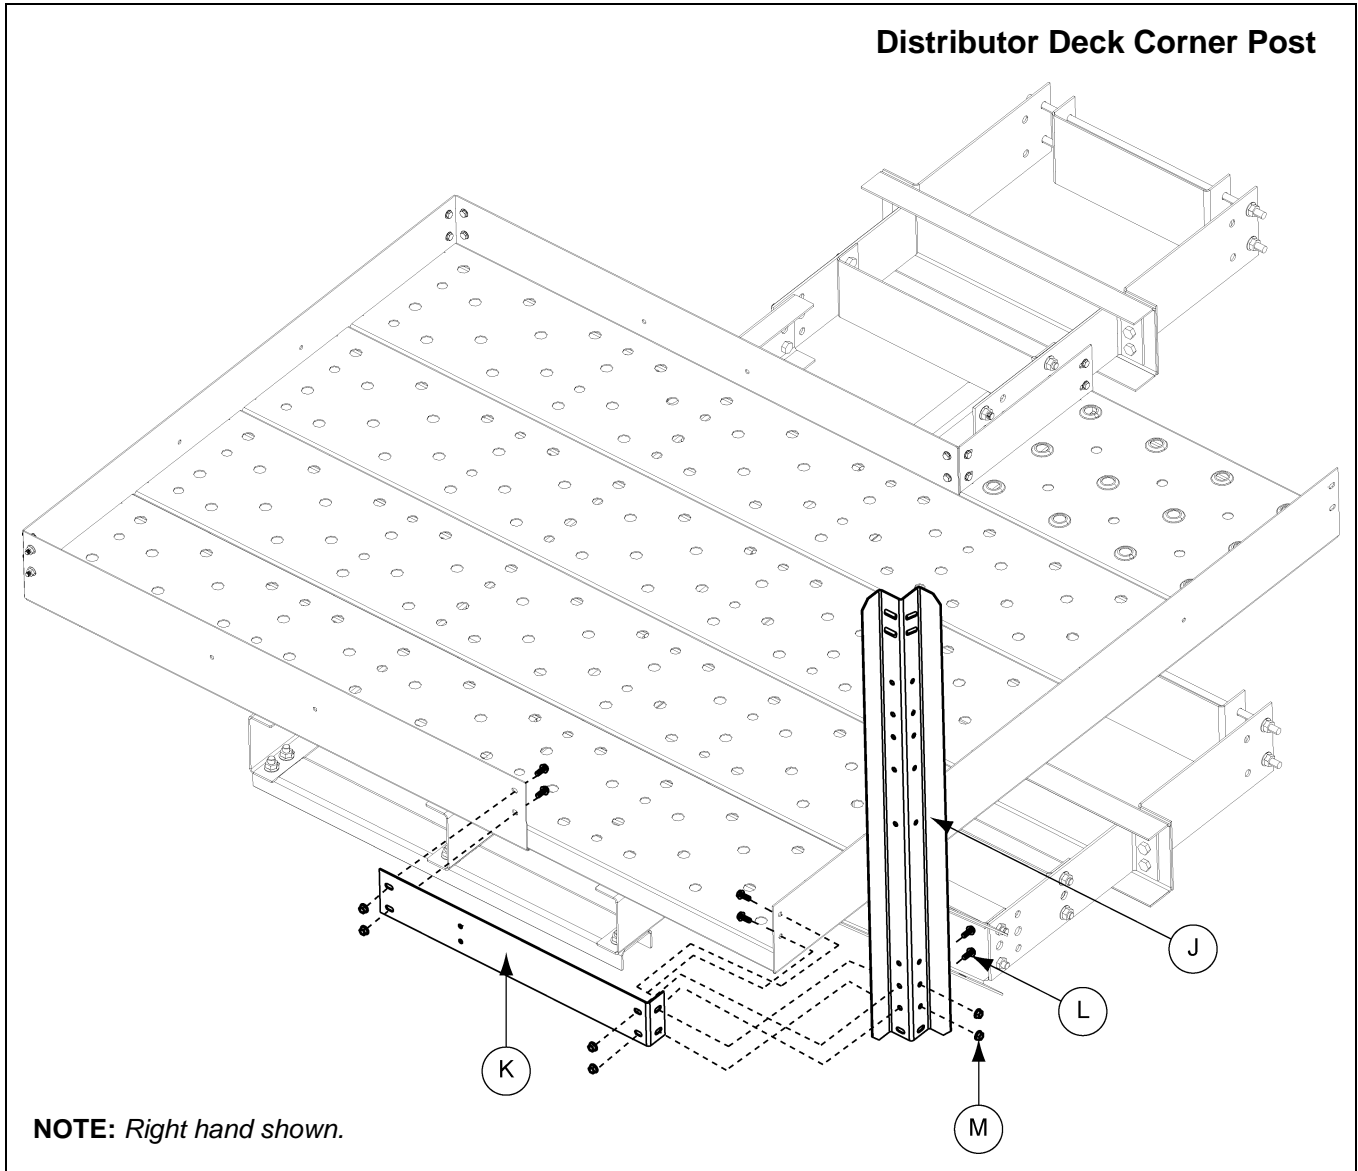

Figure 10K Distributor Platform Corner Post
5. Install the corner “W” post at the same time as the toe board filler plate. Attach toe board filler plate to the decking toe boards located across from the entrance. Attach the flat end first using two (2) 5/16" x 3/4" flange bolts and nuts. Then line up the holes of the toe board filler plate with the decking toe board, while also aligning the holes of the “W” post on the corner. Fasten all three (3) together with four (4) 5/16" x 3/4" flange bolts and nuts. (See Figure 10K on Page 83.)